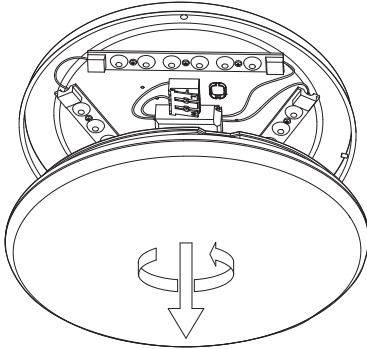

fig. 1
1. **fig. 1:** Remove the dome from the base plate (bayonet locking system).